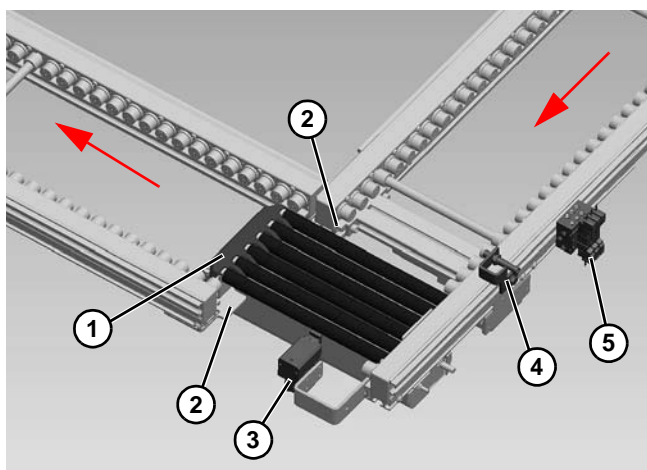

Figure 83
1. Install and adjust Pusher module (**Figure 83, item 1**).
2. Connect transfer conveyor with connecting brackets (**Figure 83, item 2**).
3. Locate and install pallet stop (**Figure 83, item 3**). (Refer to “Pallet Stops” starting on page 8.)
4. Locate and install pallet sensor (**Figure 83, item 4**). (Refer to “Sensor Mounts” starting on page 7.)
5. Install and connect pneumatic solenoids (**Figure 83, item 5**), provided by others.